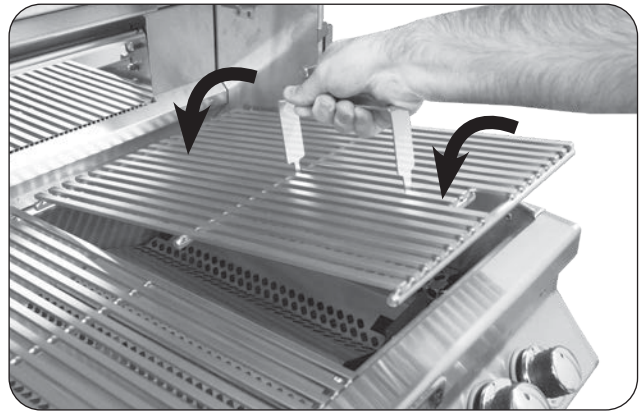

**Fig. 23-1** Install cooking grids
1. With the prongs facing downward, insert the notched-end of the lifter between two grid rods, then rotate, as shown in Fig. 23-1, A & B.
2. Insert the rear pointed-end of the lifter between the same two rods (Fig. 23-1, B) and carefully lift the cooking grid and place onto the front and rear grid rests of the grill (see Fig. 23-2). Repeat for all other cooking grids.